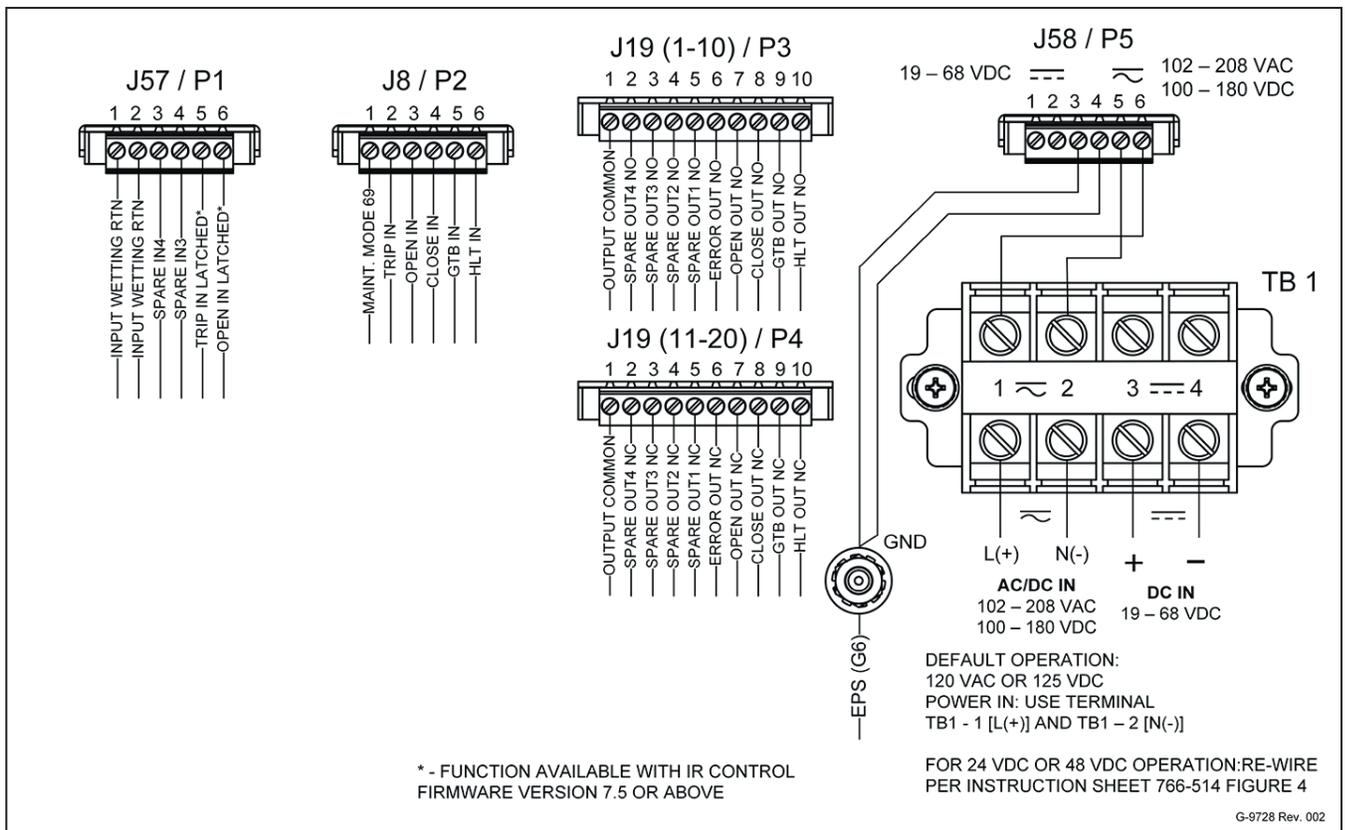
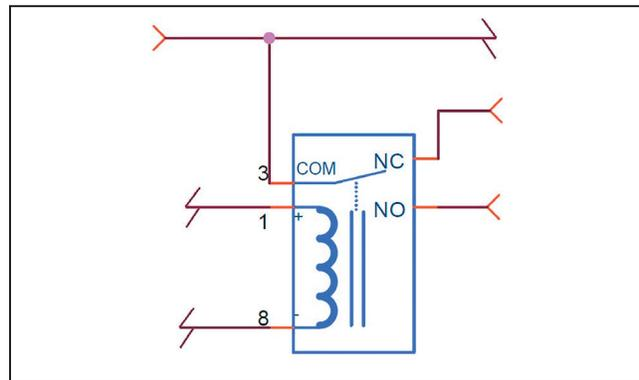
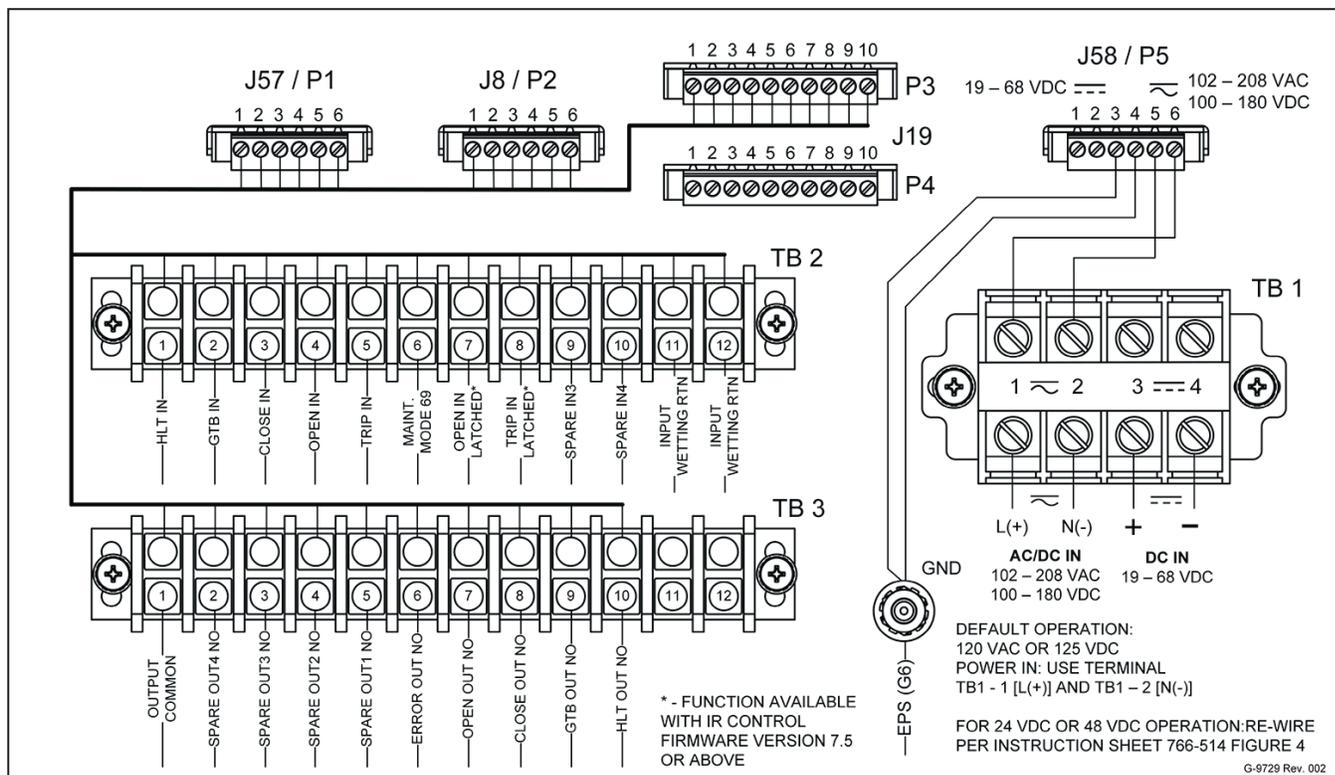

Figure 8. The SDA-5798 connection diagram.
Figure 9. The output relay connections.
Figure 10. The SDA-5798-1 connection diagram.
STEP 2. Connect the wetting voltage return for the inputs to the terminals labeled Input Wetting RTN. For SDA-5798, see Figure 8, and for SDA-5798-1, see Figure 10 on page 15.
STEP 4. The output relays provide a form C contact configuration, as shown in Figure 9. The common contact of each output relay is connected to the Output Common terminal. Either the wetting voltage hot (dc+ or ac line) or the wetting voltage common (dc- or ac neutral) can be connected to the Output Common terminal. For the outputs, connect the desired wetting voltage signal to the Output Common terminal. For SDA-5798, see Figure 8 on page 13, and for SDA-5798-1, see Figure 10 on page 15.
the same location on J19 (11-20)/P4. See Figure 8 on page 13 for the detailed terminal designations. To change all of the outputs from normally open to normally closed, move the plug in J19 (1-10)/P3 to J19 (11-20)/P4.